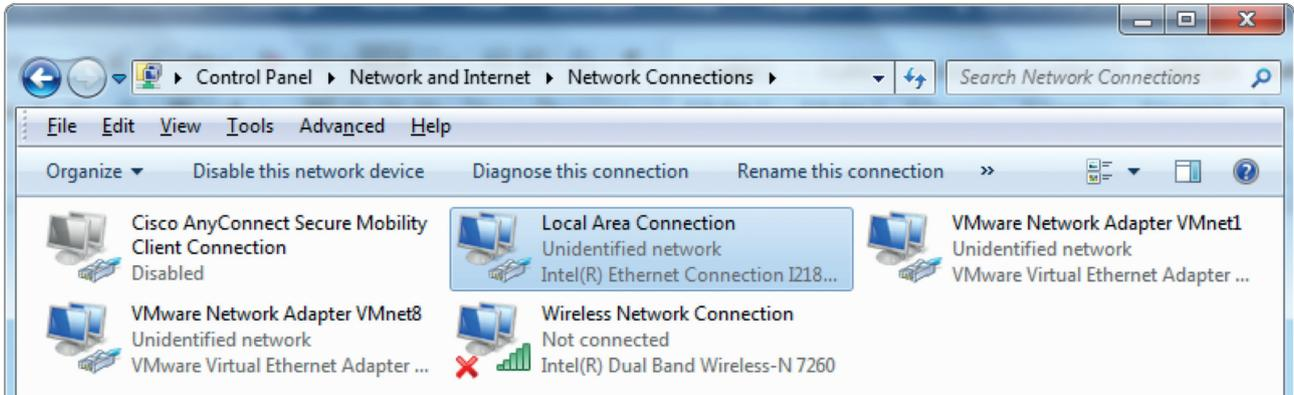

Figure 2. Selecting the ethernet device.
2. Select the ethernet device (**Local Area Connection**), right click, and select **Properties** (Figure 2).